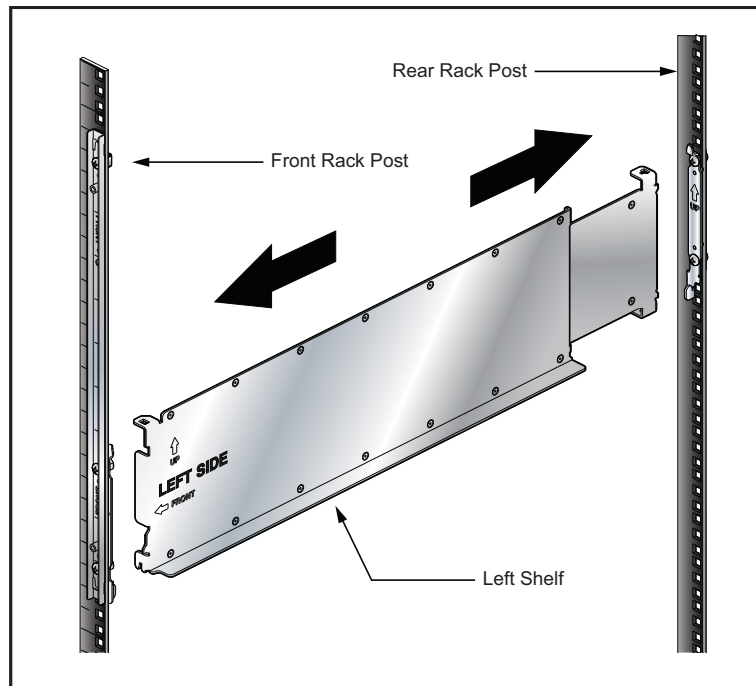

Figure 3-6: Adjusting the Left Shelf
- Step 4** Adjust the left shelf by sliding its components to fit between the front left and front rear rack posts, as shown in Figure 3-6 on page 13.